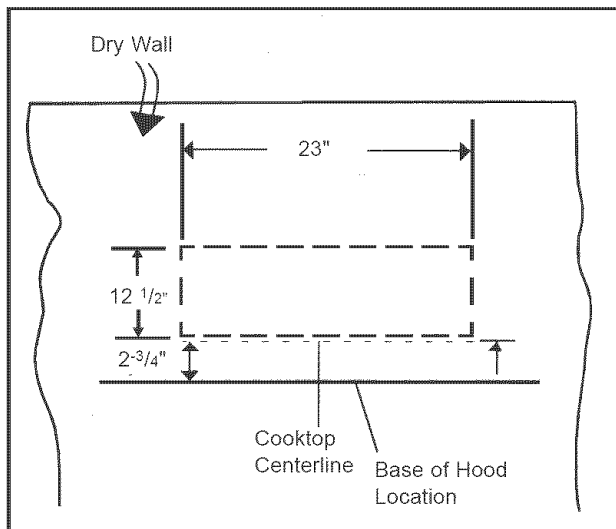

Figure 5
11. Discharge Direction: Horizontal discharge requires a wall cutout, as shown in Figure 5, to provide clearance for the transition. The location of the cutout is determined by the hood installation height.
3. For horizontal discharge use Figure 5 for the geometry of the cutout required for clearance of the transition.